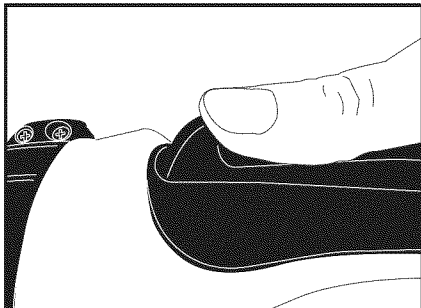

Figure 7
2. Push the switch that your thumb rests on straight forward; this is the safety release. (see figure 7)